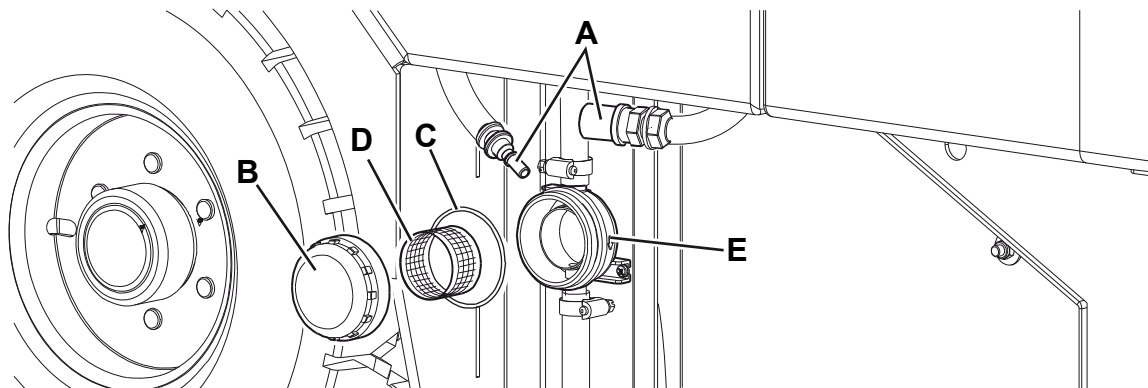

Figure 7
1. Drive the machine on a level floor, engage the parking brake and turn the ignition key (66) to "O".
2. Disengage the quick coupling (A, Fig. 7) from the tank hoses.
3. Remove the left panel (2) to reach the water filter (30).
4. Remove the transparent cover (B) with the gasket (C), then remove the filter strainer (D). Clean and install them on the support (E).